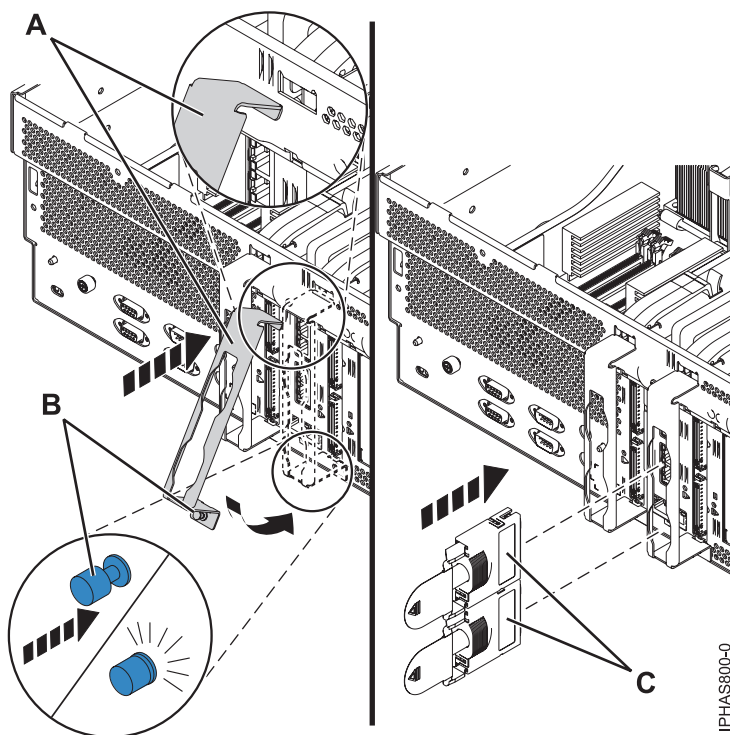

Figure 7. Cable retention bracket installation (8204-E8A shown)
14. Tilt the cable retention bracket (A), shown in Figure 7, to hook the tab at the top of the bracket into the slot in the assembly.
19. Reconnect all power and signal cables to their respective connectors. Ensure that the GX adapter cables **(C)**, shown in Figure 7 on page 12, are routed through the appropriate cable retention brackets to prevent excessive cable movement.